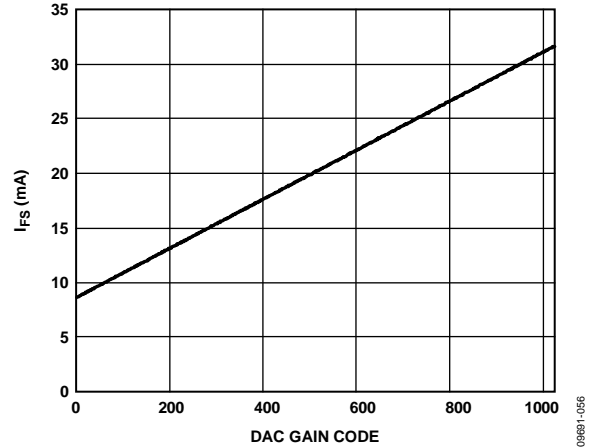

Figure 51. DAC Full-Scale Current vs. DAC Gain Code
For the nominal values of  $V_{REF}$  (1.2 V),  $R_{SET}$  (10 kΩ), and DAC gain (512), the full-scale current of the DAC is typically 20.16 mA. The DAC full-scale current can be adjusted from 8.64 mA to 31.68 mA by setting the DAC gain parameter, as shown in Figure 51.